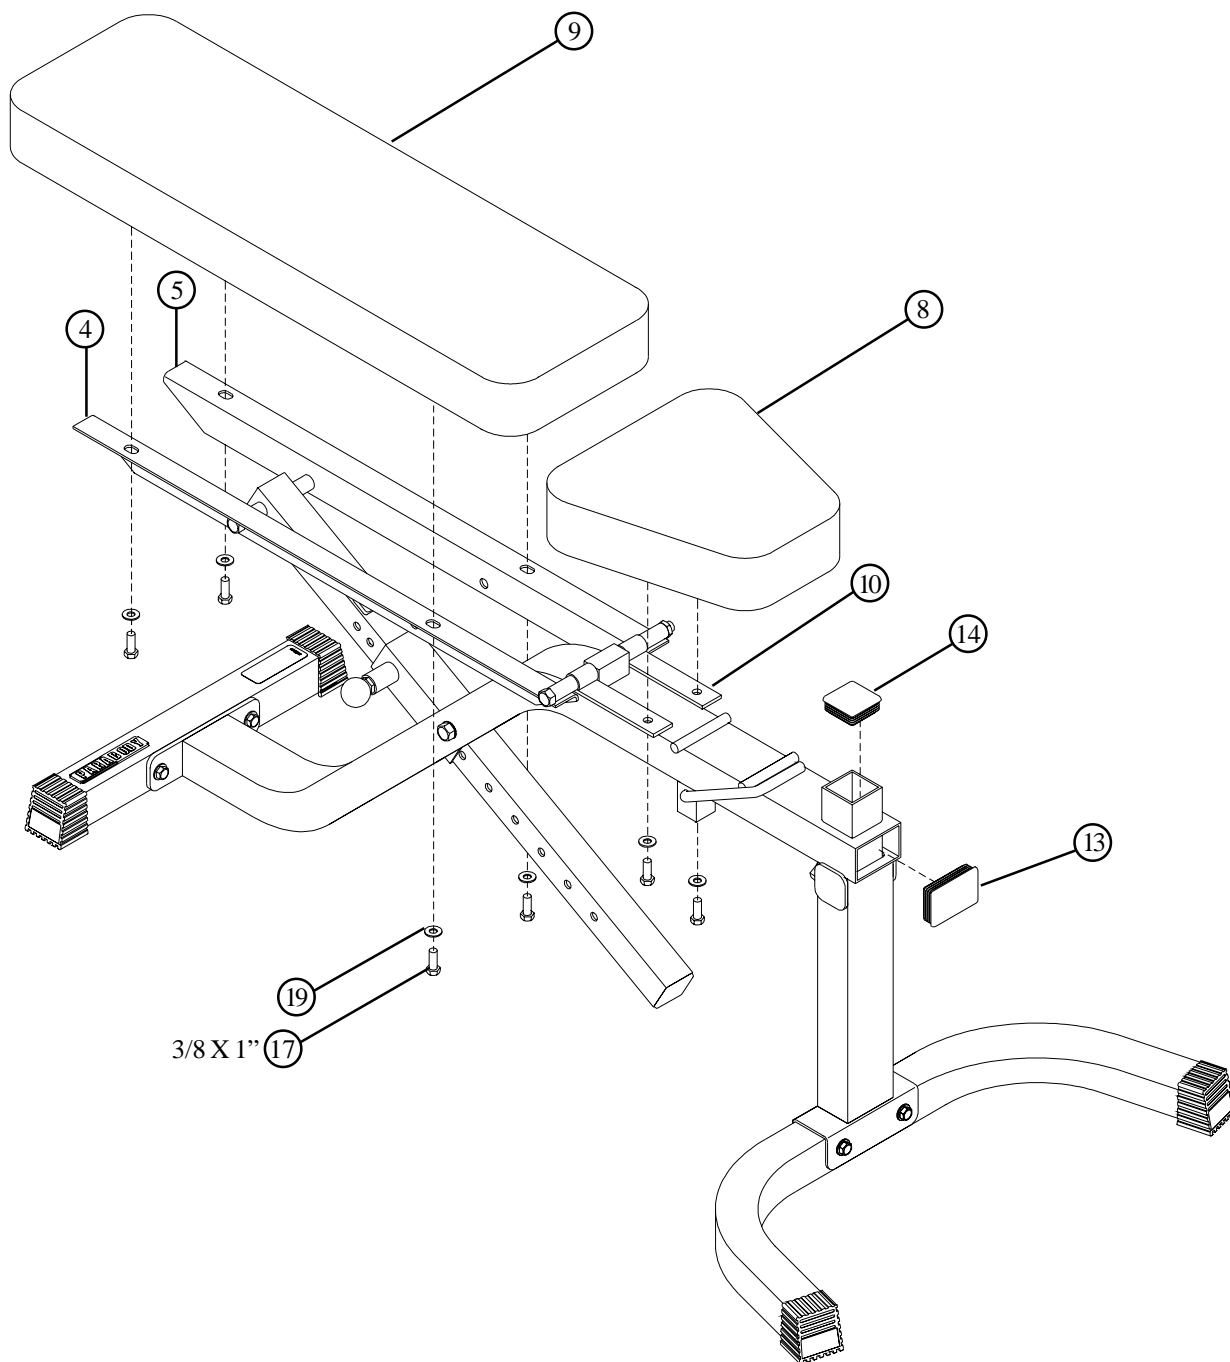

FIGURE 5
- **SECURELY** assemble the SEAT PAD (8) to the HINGE TABS (10) using two 3/8 X 1" BOLTS (17) and two 3/8" WASHERS (19) as shown in FIGURE 5.
- **SECURELY** assemble the BACK PAD (9) to the LEFT BACK PAD ANGLE (4) and the RIGHT BACK PAD ANGLE (5) using four 3/8 X 1" BOLTS (17) and four 3/8" WASHERS (19) as shown in FIGURE 5.
- Slide one 2" SQ. END CAP (14) into the top of the BENCH FRAME (1) as shown in FIGURE 5.
- Slide one 3 X 2" END CAP (13) into the front of the BENCH FRAME (1) as shown in FIGURE 5.